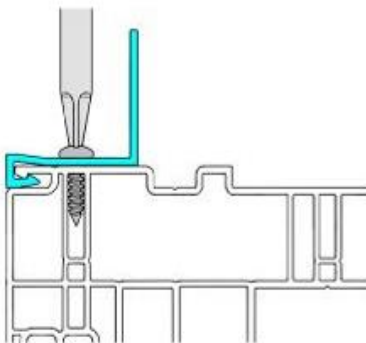

Figure 7
- Use screws to fasten the vertical nailing fin to the jamb in the location shown (Figure 7)